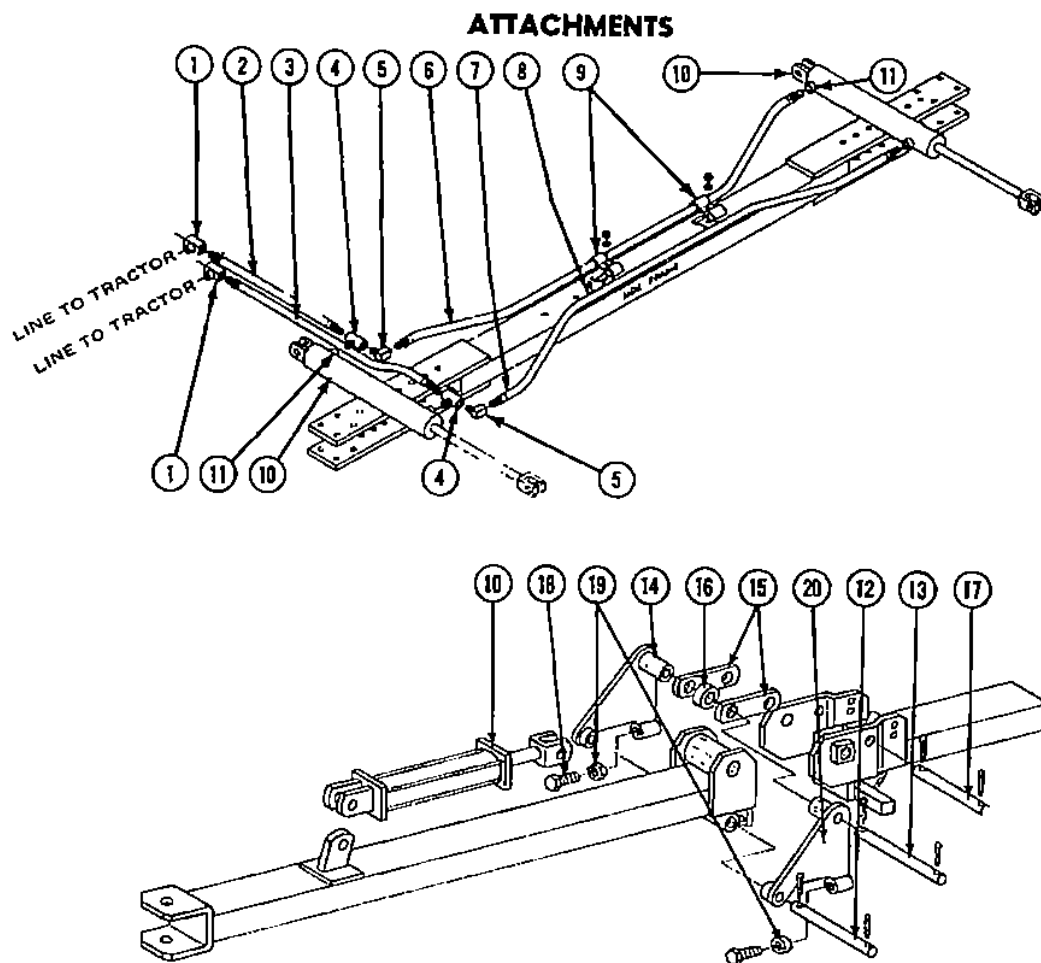

FIG. 14 — HYDRAULIC FOLDING ATTACHMENT (COMPLETE)
See Figure 14
1. Connect the right and left hydraulic wing lock (Item 14 and 20, Fig. 14) to the gang frame by using the hinge pin (Item 12, Fig. 14). Insert the two $\frac{3}{8}$ "x2" cotters in the hinge pin to secure the right and left hydraulic wing locks.
6. Connect the flow restrictor (Item 11) to the butt end of the hydraulic cylinder as shown by the arrow in Fig. 14. Connect the hydraulic tees (Item 4) to the four ports in the front hydraulic cylinders. Connect the two hydraulic hoses (41" long) (Item 2) to the inside hydraulic tee of the cylinder. Connect the two hydraulic hoses (60" long) (Item 3) to the outside tees of the hydraulic cylinder. Connect the two (41" long) hoses together with the all female hydraulic tee (Item 1). Connect the two (60" long) hydraulic hoses together with the all female hydraulic tee (Item 1). Connect the 90° hydraulic street ell (Item 5) to the hydraulic tee on the front hydraulic cylinder. Connect the (84" long) hydraulic hose (Item 6) to the butt end of the front hydraulic cylinder. Connect the other end of the 84" long hydraulic hose to the butt end of the rear hydraulic cylinder. Connect the (105" long) hydraulic hose (Item 7) to the rod end of the hydraulic cylinder. Connect the other end of the hose to the rod end of the rear hydraulic cylinder. Connect the hydraulic hose (Items 6 and 7) to the side frame with equal slack between front and rear with the hose clamps (Item 9). Tighten clamp down to secure hose.
7. Extend the hydraulic cylinder rod to the full length. Adjust the adjustment bolts (Item 18, Fig. 14) so that they are snug, not tight, on the wing lock bar. Lock the adjustment nut (Item 19).